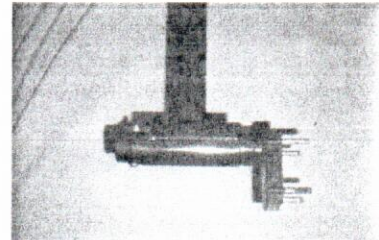

FIGURE 3
5. Slide cross bar into body bracket with cross bar pointing up. Slide the other body bracket on cross bar and mount to body. Tighten body brackets to body and center cross bar between brackets. Tighten all bolts to 50 ft. lbs. (Figure 3)